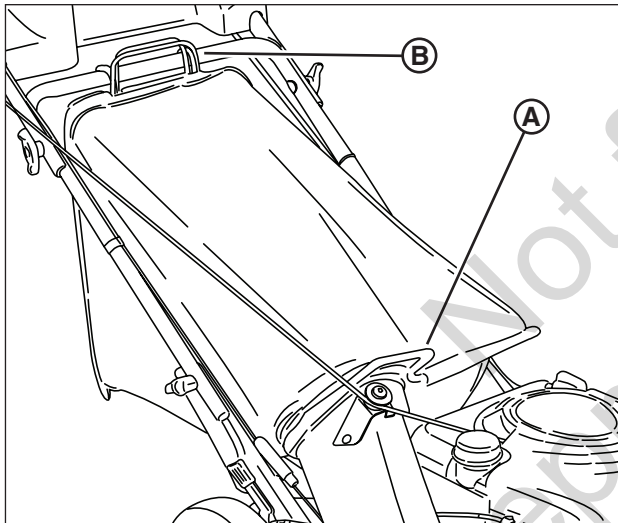

Figure 12: Installing the grass bag
2. Install the grass bag by sliding the connector (A, **Figure 12**) over the adapter flange.
3. Attach the grass bag hooks (B) over the middle handle cross bar.